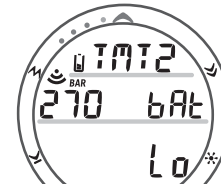

Fig. 38A - TMT2 BATT LOW
- > Graphic Good or Lo, or NotAvAIL (Fig. 38A/38B)